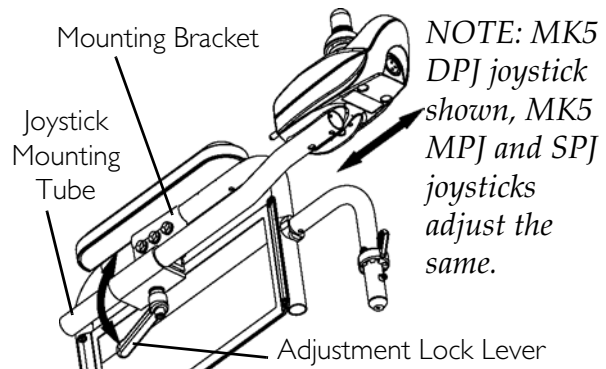

FIGURE 14.1 Preparing MK5 Joystick for Use
NOTE: For this procedure, refer to FIGURE 14.1.
1. Turn the adjustment lock lever to release the adjustment lock from joystick mounting tube (FIGURE 14.1).